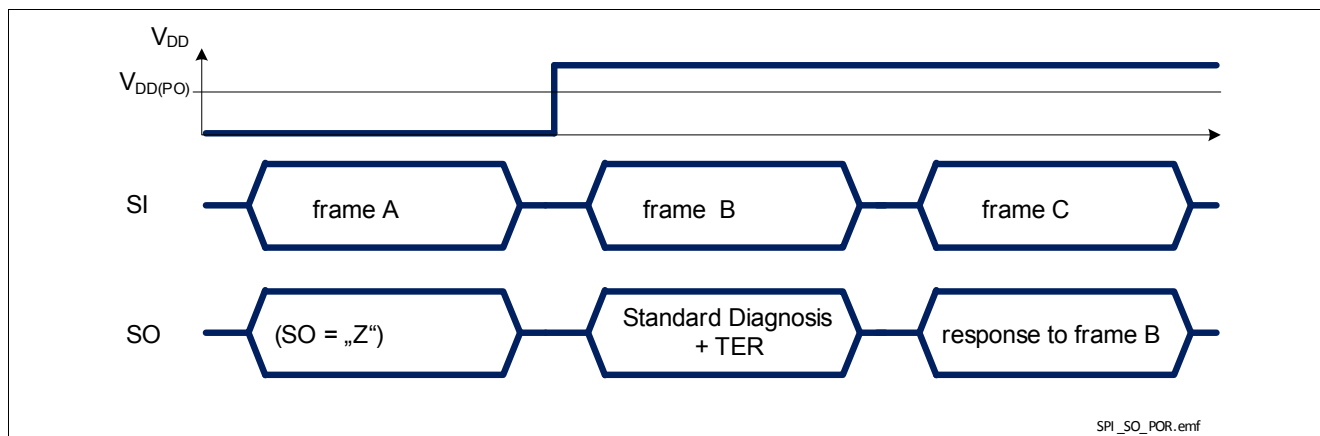

Figure 34 BTS56033-LBB response after coming out of Power-On reset at V_{DD}
- when BTS56033-LBB logic supply comes out of Power-On reset condition, as shown in Figure 34